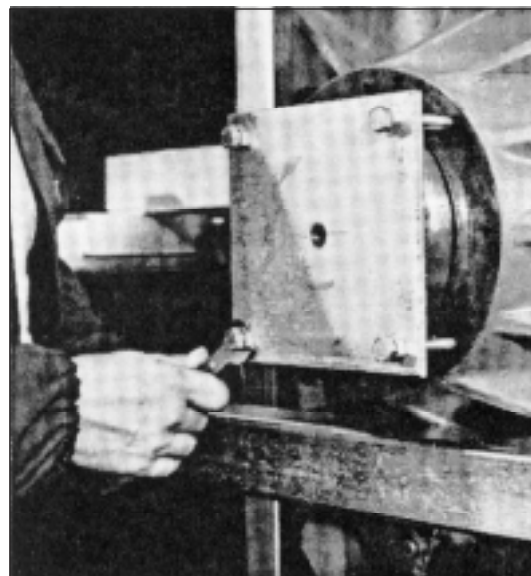

Figure 18. Pressing in the small bearing
39. Press on the small bearing, see figure 18.